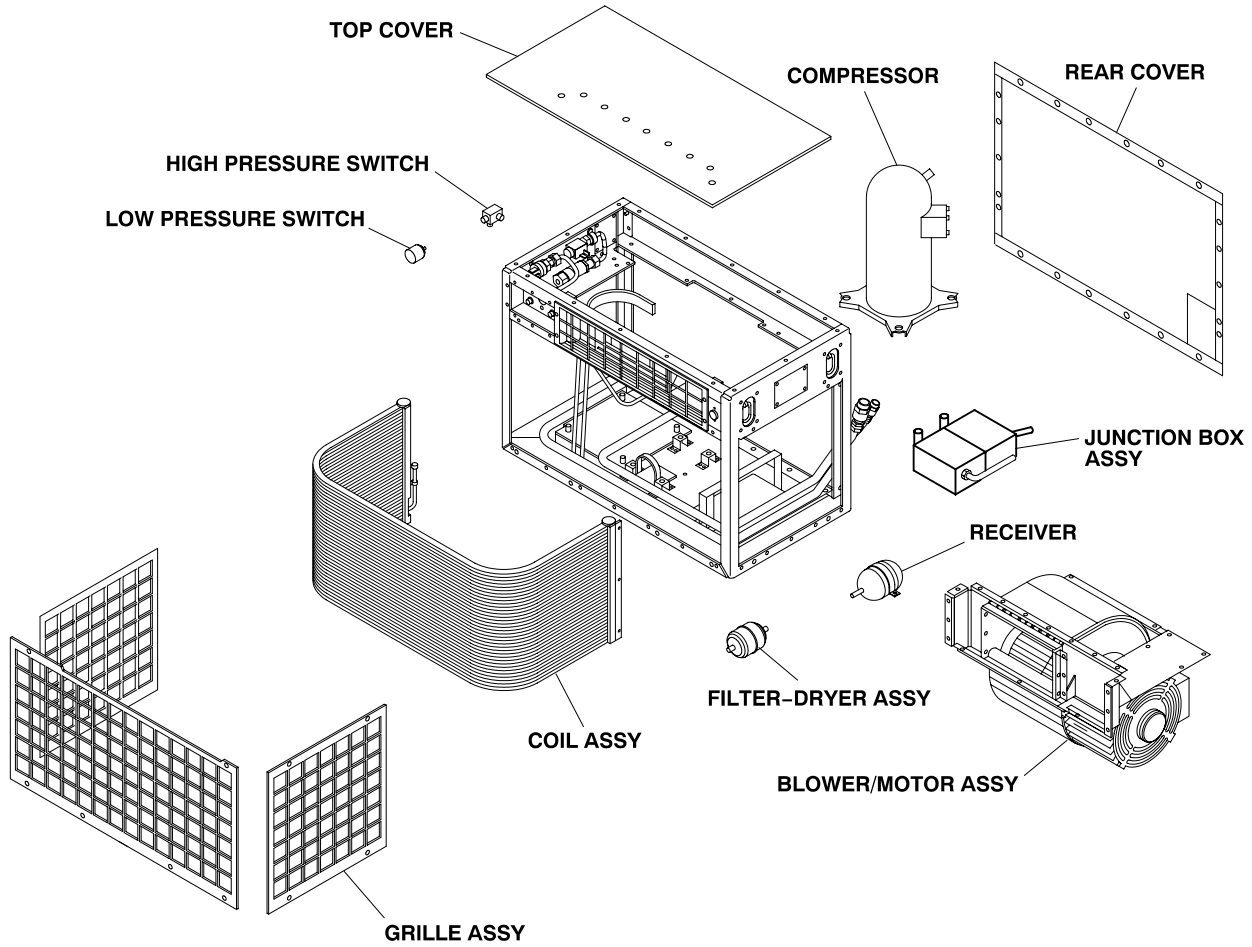

Figure 3. LOCATION OF MAJOR COMPONENTS (Condenser Assembly)
23. CONDENSOR ASSEMBLY (**Figure 3**).